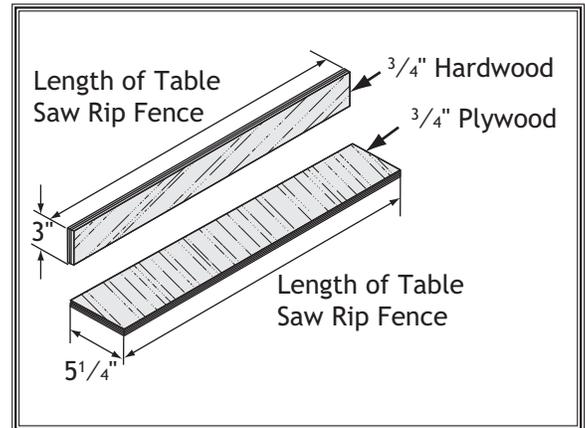

Figure 94. Auxiliary fence dimension.
1. Cut a piece of $\frac{3}{4}$ " thick plywood $5\frac{1}{4}$ " wide and as long as your table saw fence; cut a piece of $\frac{3}{4}$ " thick hardwood 3" wide and as long as your table saw fence, as shown in **Figure 94**.